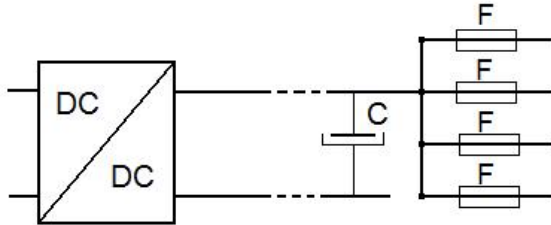

Figure 7. Connecting multiple loads.
4. To reduce the voltage drop at short circuit and if any branch has more than approximately 30% of the total output current of the converter, a large external capacitor is recommended. Such a capacitor will supply the peak current needed to blow the fuse, *see Figure 7*.